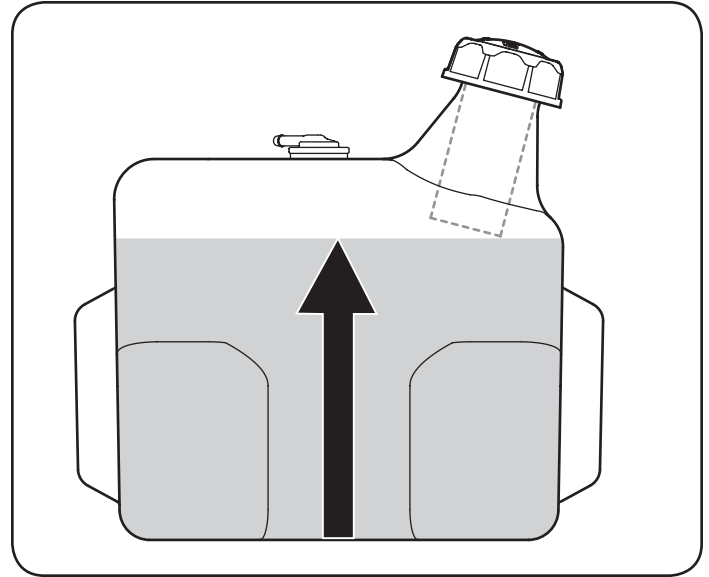

Figure 7
**IMPORTANT:** Do not overfill the tank. Fill tank to no more than 1/2 inch below bottom of filler neck to allow space for fuel expansion. See Figure 7.